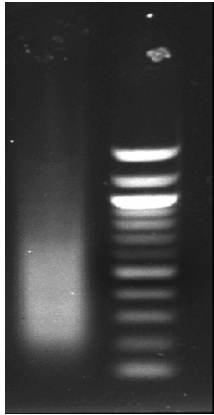

Figure 1: DNA Sonication
- Optimal conditions need to be determined to shear cross linked DNA to ~200-600 base pairs in length (Figure 1). Once shearing conditions have been optimized, proceed with the steps below.